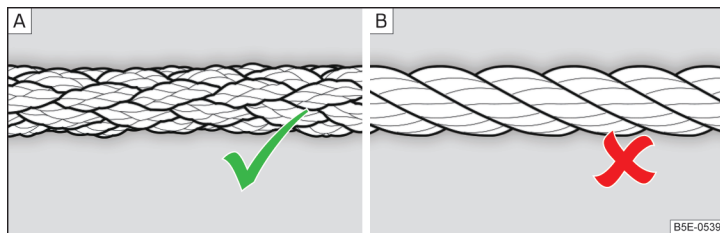

Fig. 94 Braided tow rope / Spiral tow rope
For towing using a tow rope, use only a braided synthetic fibre rope » fig. 94 -
- Do not use spiral rope for towing » fig. 94 - [B], the towing eye may unscrew from the vehicle - There is a risk of an accident.